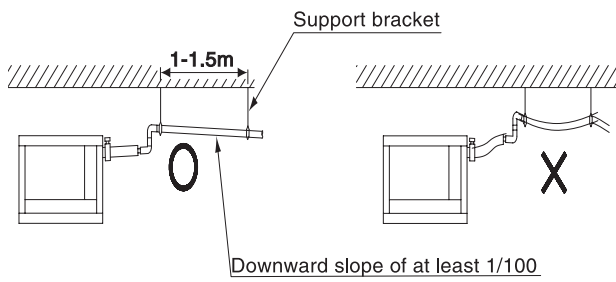

Fig. 10
- Install the drain piping as short as possible with downward inclination of 1/100 or more and such that air may not stagnate. (Refer to Fig. 10)
- Install supports at a distance of 1 to 1.5 m so that the piping may not deflect. (Refer Fig. 10)
- Make sure to use the attached drain hose (2) and the metal clamp (1).